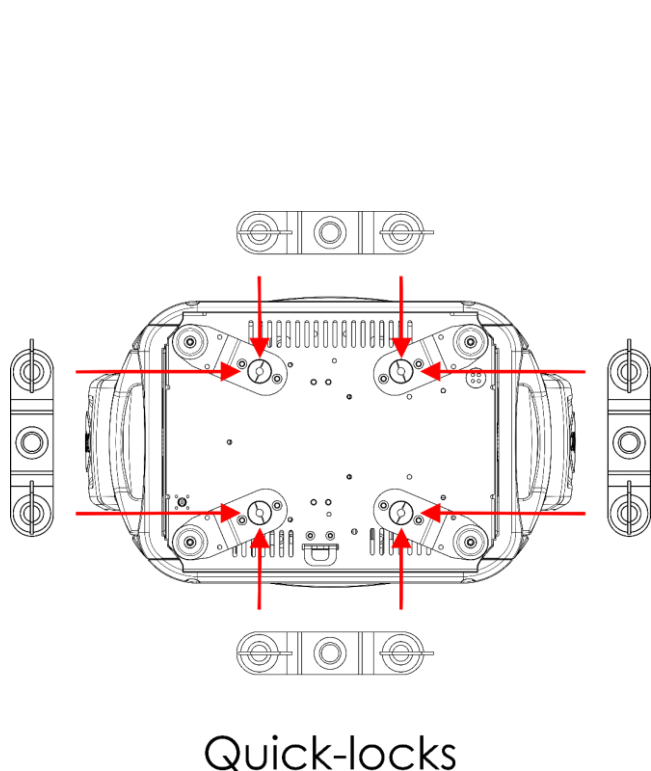

Fig. 06
- 01) Fasten the 2 quick lock brackets, supplied with the device, on the **mounting holes for quick lock brackets (13)**. You can position the quick lock brackets in two ways, as shown in Fig. 06.